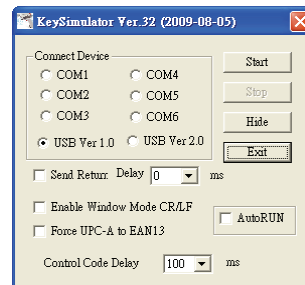

Figure 1
4. Choose a COM port number and click "Send Return" (Figure 1).
Click "Start" to complete the setup procedure (Figure 1).